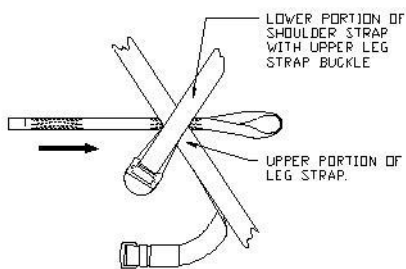
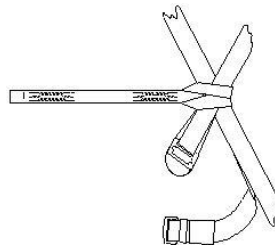

Fig. 1
Fig. 2
- Slide the end of the rappelling loops with the 4" diameter loop under the harness straps at the point where the lower portion of the shoulder straps cross the upper portions of the leg straps (Fig.1). Hitch the rappelling loops to the harness as shown in Fig. 2.
If using 'A1' retro rappelling loops Slide the end of the rappelling loops with the 4" diameter loop under the harness straps at the point where the lower portion of the shoulder straps cross the upper portions of the leg straps (Fig.1). Hitch the rappelling loops to the harness as shown in Fig.2.